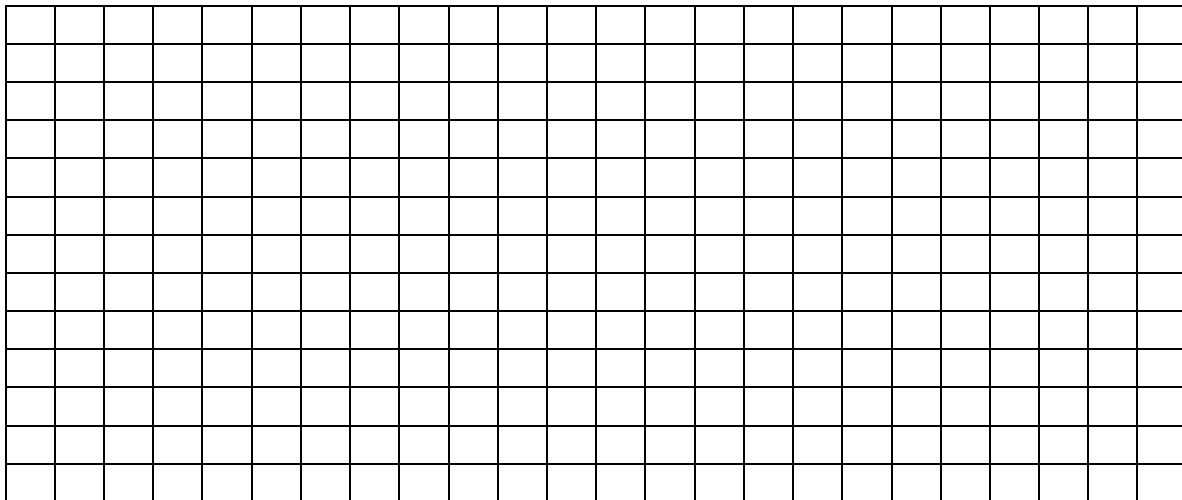

Fig 3
- 8b) Sketch the waveform on Fig 3